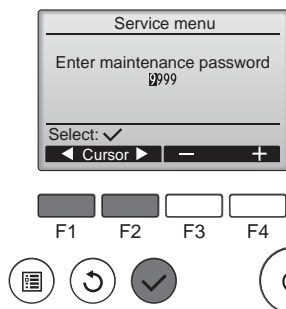

Fig. 5-2
- ① Select "Service" from the Main menu, and press the button.
- ② When the Service menu is selected, a window will appear asking for the password. (Fig. 5-2)